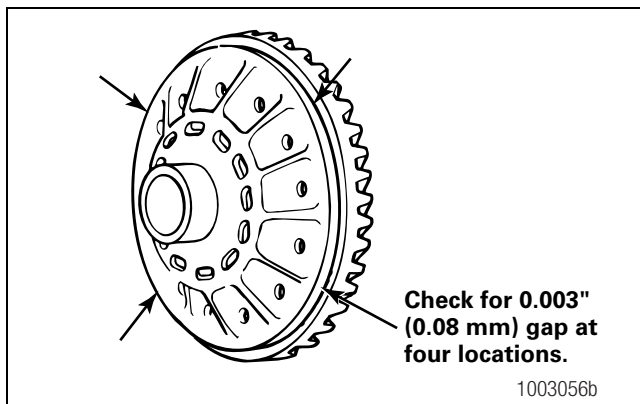

Figure 5.36
- Use a 0.003-inch (0.08 mm) feeler gauge to check for gaps between the back surface of the ring gear and the case flange. Check for gaps at four points around the assembly. Figure 5.36.